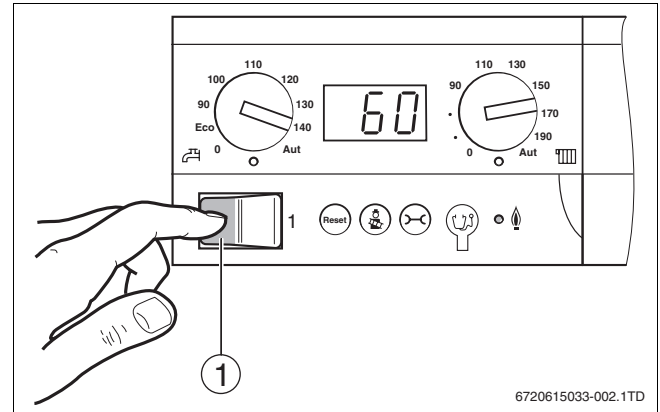

Fig. 1 Main switch
- ▶ Switch off the heating system using the main switch (→ fig. 1).